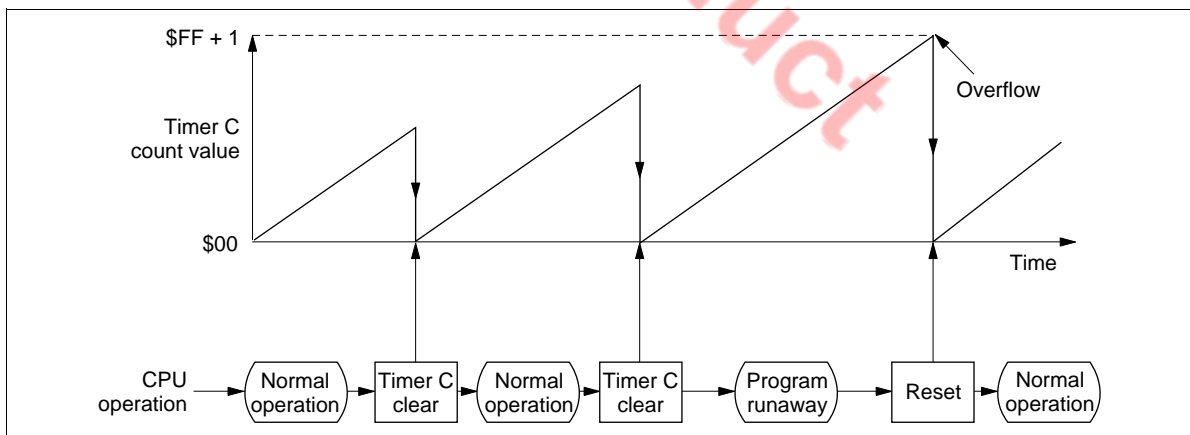

Figure 48 Watchdog Timer Operation Flowchart
- Watchdog timer operation: Timer C is used as a watchdog timer for detecting out-of-control program routines by setting the watchdog on flag (WDON: \$020, bit 1) to 1. If a program routine runs out of control and an overflow is generated, the MCU is reset. The watchdog timer operation flowchart is shown in figure 48. Program run can be controlled by initializing timer C by software before it reaches \$FF.